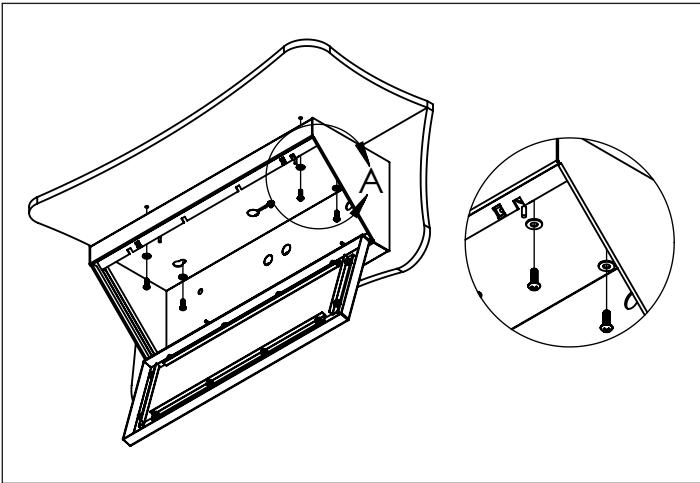

Figure 3
3. With hinge side down, mount in desired location with mounting hardware (by others) (Fig. 3)